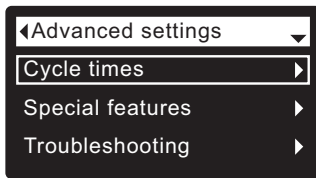

FIG. 129
3. Press the SELECT (O) button to display the Advanced settings menu (See Figure 129).